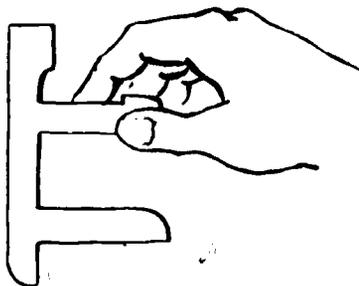

FIGURE 9
- J. Grasp other hanger (Figure 9)